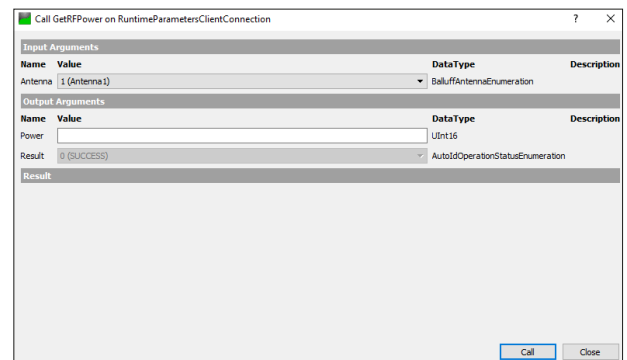

Fig. 9-21: *GetRFPower()* method call
- ⇒ A window opens again showing the call arguments and the return parameters of the corresponding method (*GetRFPower()*, see Fig. 9-21).